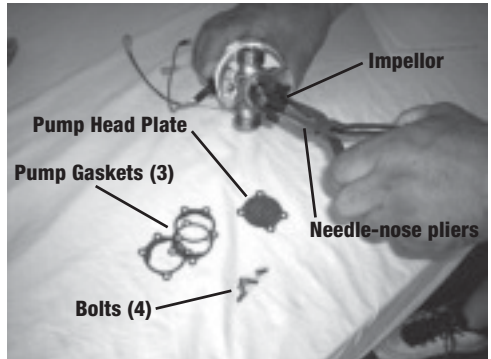

Figure 6: Replacing impellor
4. Remove pump head plate and pull impellor out of pump head with needle-nose pliers (fig 6).
RULE OF THUMB: When pump is new, the pump head plate is sealed with three paper gaskets (fig. 6). Depending on how well your pump is priming, you may need to remove one or possibly two of these gaskets. Also, if the pump head plate is worn, you may need to flip it over when you install it back on the pump head.